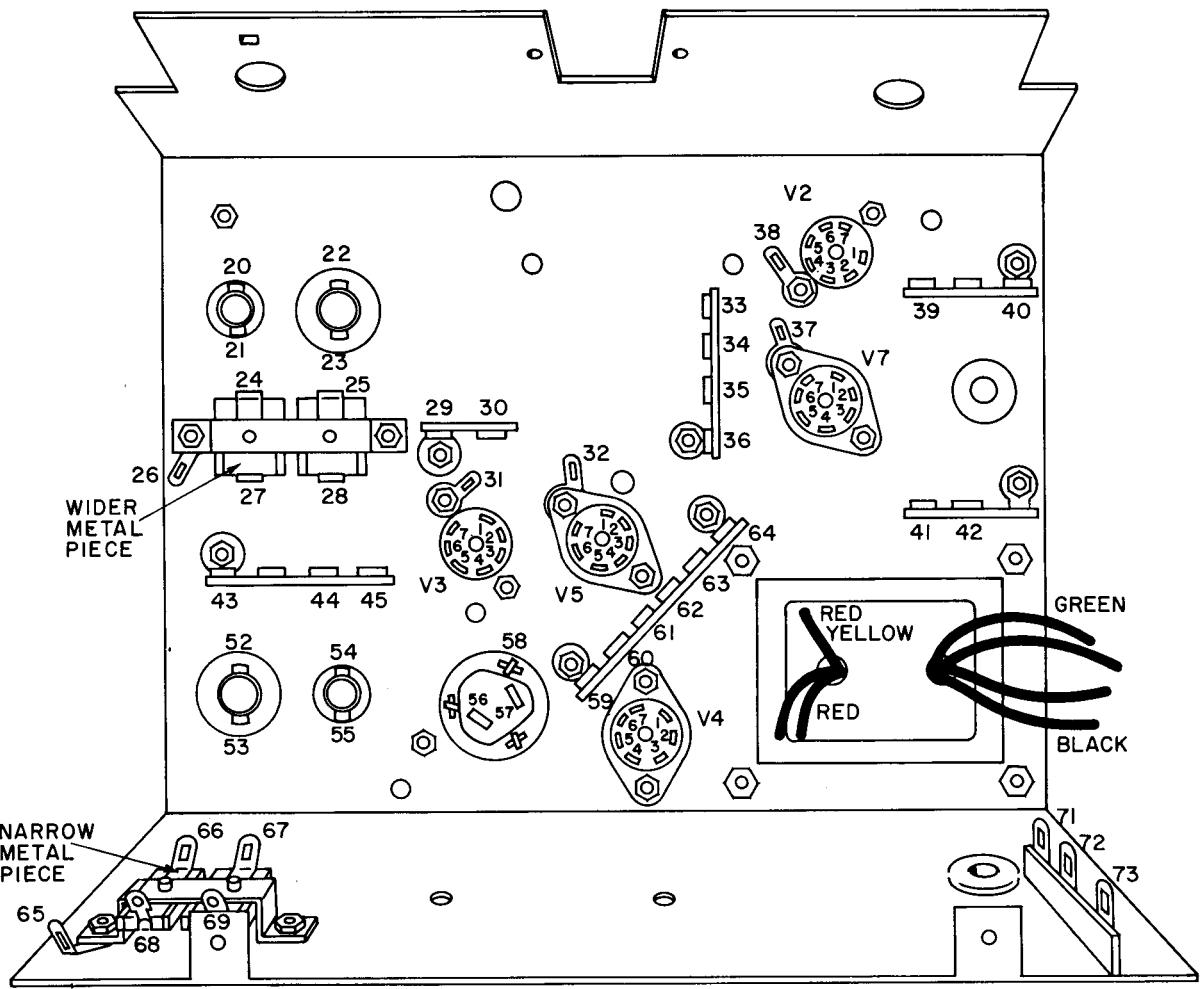

FIG. 7. Parts mounted on the bottom of the chassis.
- (1) ✓ Shielded 7-pin miniature socket in hole H from top of chassis, with tube socket pins positioned as shown for V2 in Fig. 7. Use 4-40 screws and nuts and No. 6 lockwashers in holes H1 and H2. Put a solder lug on the screw in hole H2 before putting on a lockwasher and nut.
- (2) ✓ Shielded 7-pin miniature socket in hole R from the top of the chassis, with tube socket pins positioned as shown for V3 in Fig. 7. Use 4-40 screws and nuts, and No. 6 lockwashers in holes R1 and R2, with a solder lug on the screw in hole R1.
- (3) ✓ Unshielded 7-pin miniature socket in hole T from the bottom of the chassis, with the socket pins positioned as shown for V5 in Fig. 7. Use 4-40 screws and nuts, and No. 6 lockwashers, and a solder lug on the screw in hole T1.
- (4) ✓ Unshielded 7-pin miniature socket in hole CC from the bottom of the chassis, with the socket pins positioned as for V4 in Fig. 7. Use 4-40 screws and nuts and No. 6 lockwashers.
- (5) ✓ Three-lug terminal strip with one grounded lug (terminals 39 and 40), on bottom of chassis over hole J. Use a 6-32 screw and nut and No. 6 lockwasher.
- (6) ✓ Two-lug terminal strip with insulated mounting foot (terminals 41 and 42) on bottom of chassis over hole W. Use a 6-32 screw and nut and No. 6 lockwasher.
- (7) ✓ Solder lug (terminal 83) on top of chassis over hole V. Use a 6-32 screw. Put a 4-lug terminal strip (terminals 33-36) on the same screw on the bottom of the chassis. Put on a lockwasher and a 6-32 nut.
- (8) ✓ Two-lug terminal strip with one lug grounded (terminals 29 and 30) over hole Q on the bottom of the chassis. Use a 6-32 screw and nut and a No. 6 lockwasher.
- (9) ✓ Four-lug terminal strip (terminals 43-45) over hole X on the bottom of the chassis. Use a 6-32 screw and nut and a No. 6 lockwasher.
- (10) ✓ Two-lug terminal strip with one lug grounded (terminals 89 and 90) over hole D on top of the chassis. Use a 6-32 screw and nut and a No. 6 lockwasher.
- (11) ✓ Dual trimmer capacitor on bottom of chassis over holes O and P. Notice that on one side of the dual capacitor, each terminal is connected to a narrow metal piece, and on the other side, each terminal is connected to a wider metal piece. Be sure to mount the capacitor so that the wider metal pieces are toward the 4-lug strip. Use 6-32 screws, nuts, and No. 6 lockwashers in holes P1 and O1, with a solder lug (terminal 26) on the screw in hole O1, between the chassis and the mounting bracket of the capacitor.
- (4) Power transformer on top of chassis over hole EE. First remove the four nuts and lockwashers from the assembly screws. Position the transformer so that its black and green leads are near the edge of the chassis, as in Fig. 7. Pass the transformer assembly screws through holes EE1, EE2, EE3, and EE4. Put on the lockwashers and the nuts you previously removed. Draw the nuts up tight.
- (5) Three-lug terminal strip with insulated mounting foot (terminals 71-73) over hole KK from the bottom of the chassis. Use a 6-32 screw and nut and a No. 6 lockwasher.
- (6) Dual trimmer capacitor from the bottom of the chassis over holes FF and GG, with wider metal pieces toward the edge of the chassis. Use 6-32 screws and nuts and No. 6 lockwashers in holes GG1 and FF1, with a solder lug (terminal 65) on the screw in hole FF1, between the chassis and the capacitor mounting bracket.
- (7) Mounting wafer for electrolytic capacitor on top of chassis over hole BB. Position it as in Fig. 7 and detail drawing of Fig. 8. Insert a 6-32 screw through a two-lug terminal strip (terminals 84 and 85), then through hole BB2 from the top of the chassis. Put on a No. 6 lockwasher and a 6-32 nut. Insert a 6-32 screw through hole BB1 from the top of the chassis. Put one foot of a 6-lug terminal strip (terminals 59 through 64) on this same screw on the bottom of the chassis, then a lockwasher and nut. Be sure the 6-lug strip is positioned as in Fig. 7.
- (8) Mount the other end of the 6-lug strip over hole U, using a 6-32 screw, nut, and a No. 6 lockwasher.
- (9) Insert the lugs of the electrolytic capacitor through the slots in the mounting wafer, with terminals 56 and 57 positioned as shown in Fig. 7. Using a pair of pliers, twist each of the capacitor mounting lugs a quarter of a turn to hold the capacitor firmly in the mounting wafer.
This completes the mounting of hardware at this time. Check your chassis to see that it has the parts mounted and positioned as shown in Fig. 7.